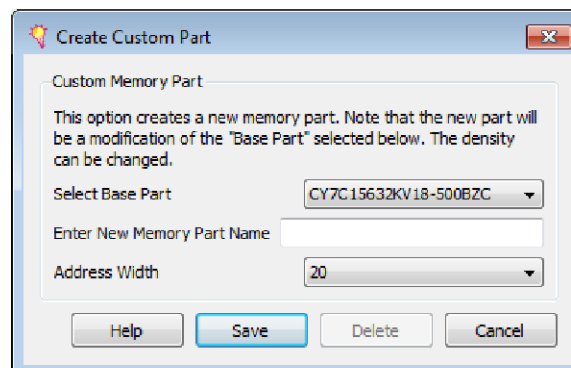

Figure 2-19: Create Custom Part Page
2. Select the appropriate **Memory Part** from the list. If the required part or its equivalent is unavailable, a new memory part can be created. To create a custom part, click the **Create Custom Part** below the **Memory Part** pull-down menu. A new page appears, as shown in Figure 2-19.